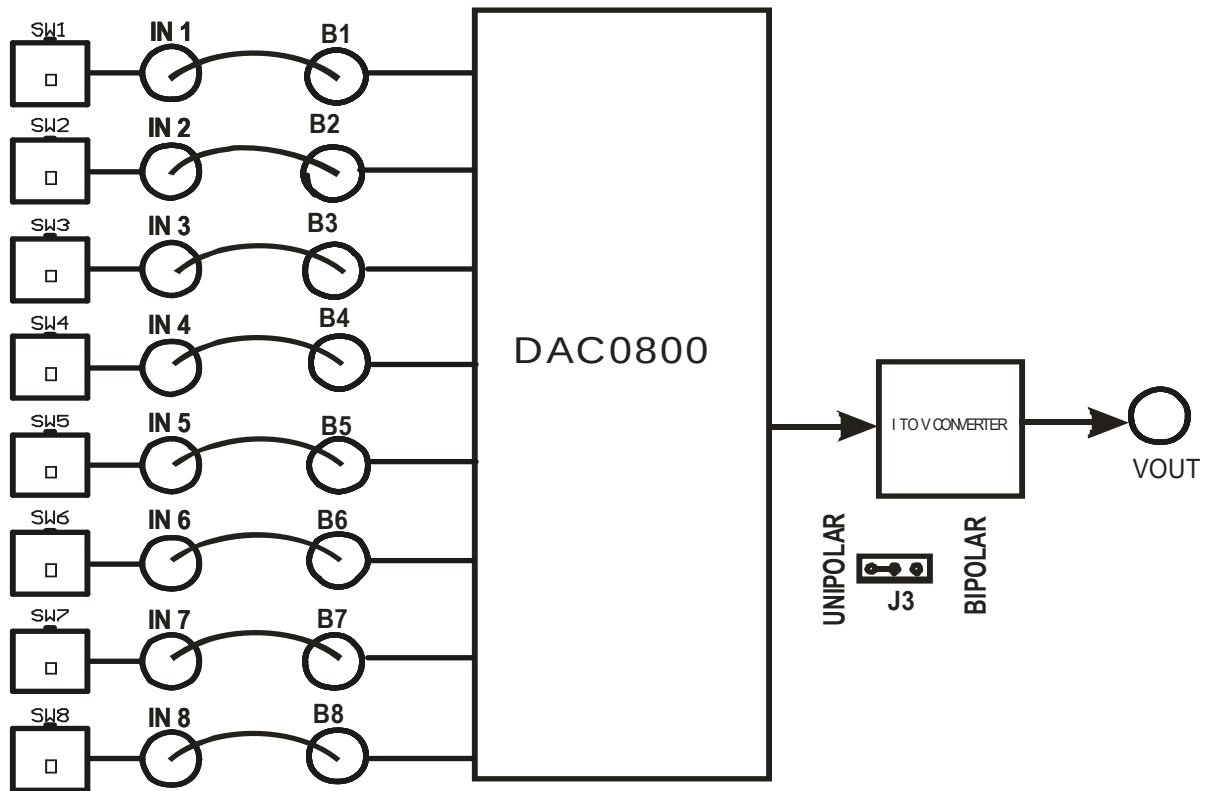

FIGURE-3.2
1. Make the connection as shown below in FIGURE-3.2.